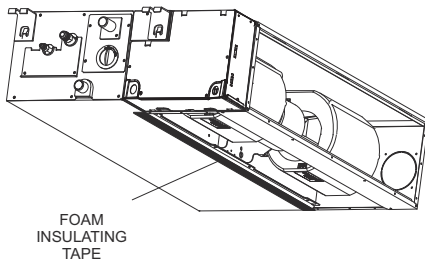

Fig. 11 —Applying Foam Insulation Tape
1. Apply foam insulating tape to the return air opening on the bottom of the unit. See Fig. 11 below.